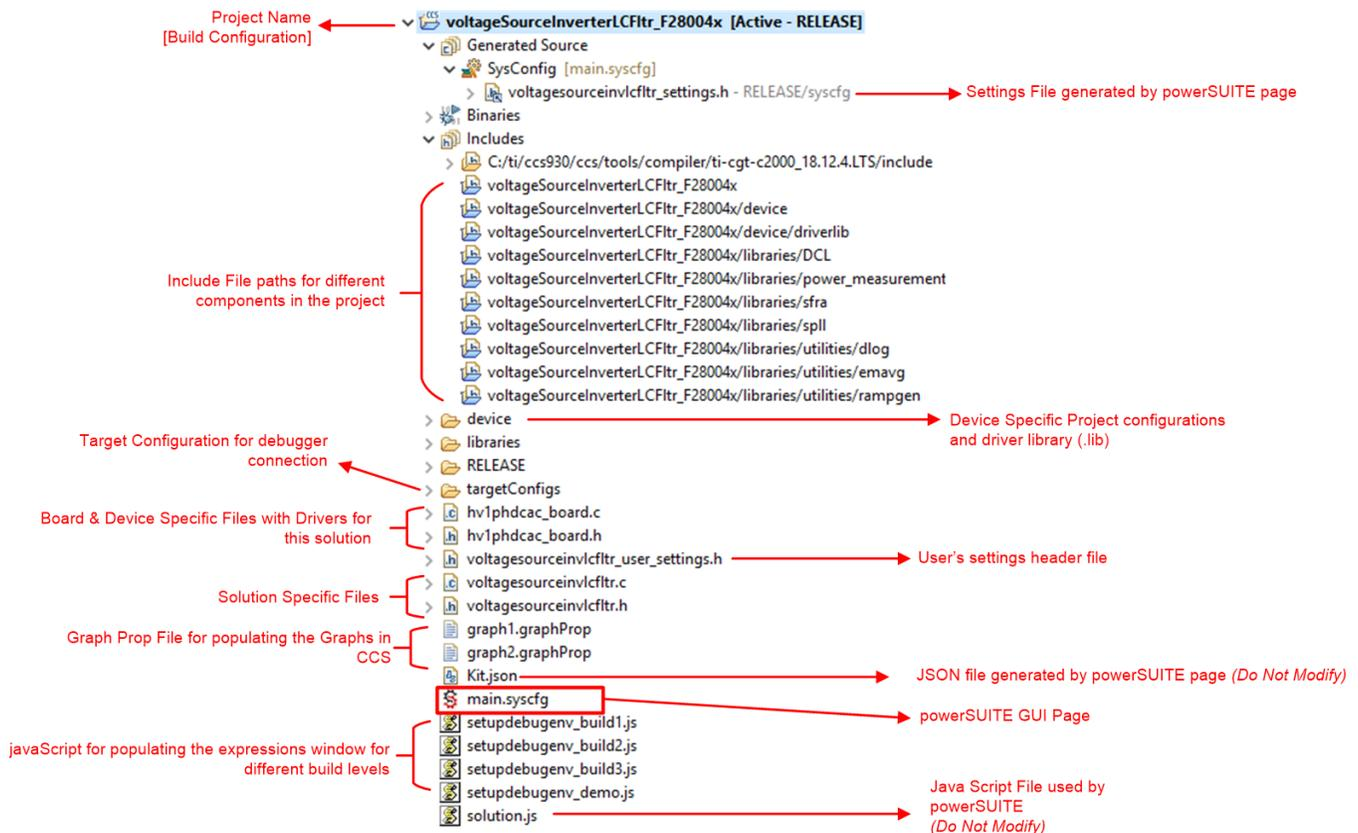

图 20. Project Explorer View of the Solution Project
Once the project is imported, the project explorer appears inside CCS, as shown in 图 20.
注: 图 20 shows the project for TMS320F2837x; however, if a different device is chosen from the powerSUITE page, the structure will be similar.
The *Kit.json* and *solution.js* files are used internally by powerSUITE and must also not be modified by the user. Any changes to these files result in project not functioning properly. 图 20 shows the project explorer view of the solution project.
3. In the *Project Explorer*, make sure the correct target configuration file is set as *Active*, as shown in 图 20.